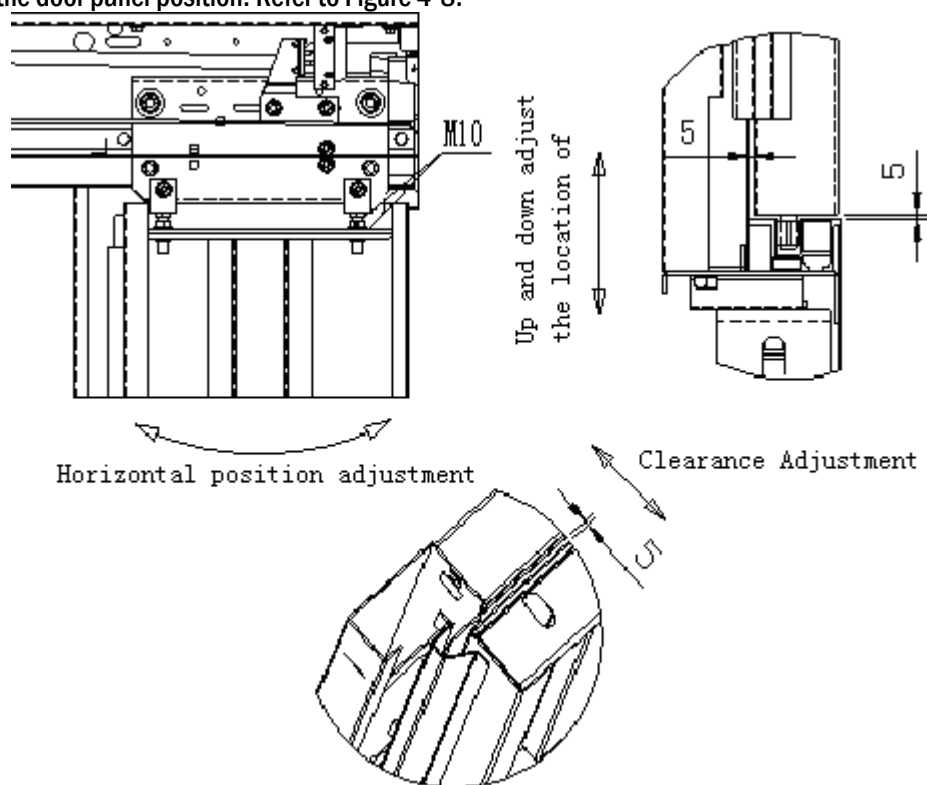

Figure 4-8 Vertical and Gap Adjustment of Landing Door Panel
b) Vertical and gap adjustment: loose four M8 flange faced hexagonal nuts on the components of the hanger bolts adjusting the door panel position. Refer to Figure 4-8.